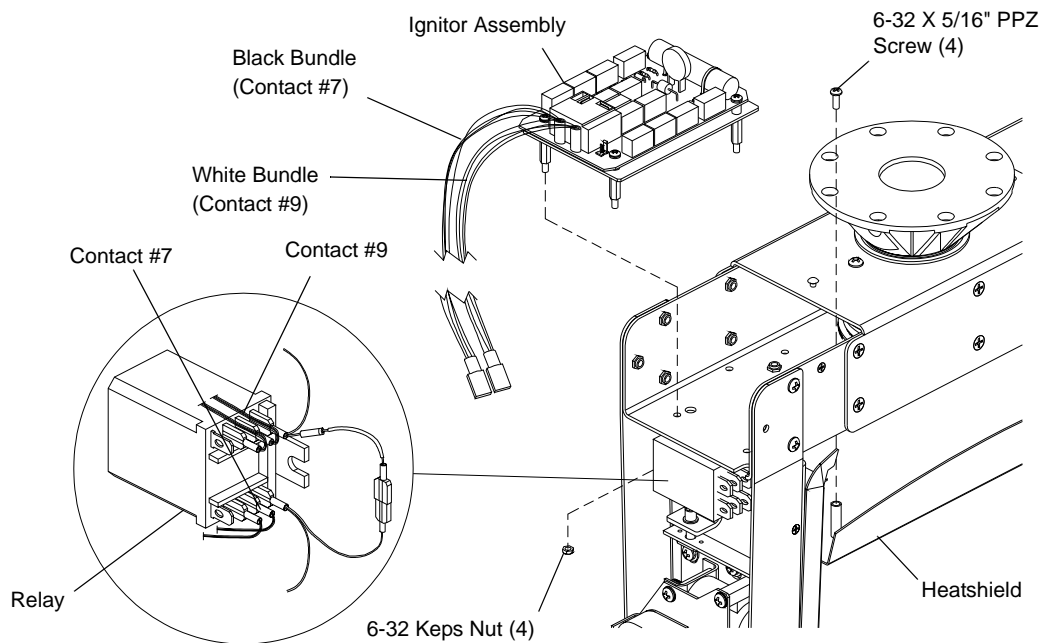

Figure 2-33: VL5Arc Ignitor Board Assembly Removal and Replacement
- Step 3. At yoke top cross member, using #2 Phillips screwdriver, remove four 6-32 X 5/16" PPZ screws and four #6 lock washers securing heatshield to cross member, and remove heatshield. **Figure 2-33.**